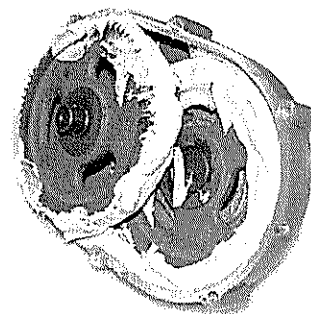

FIGURE 17
10. Fill transmission cover and case with 8 ounces (224 g) of high temperature transmission grease containing an extreme pressure additive. If Fisk Brothers GR-132 lubricant is not available, marine-grade, wheel bearing grease classified for extreme pressure (EP) applications can be used in its place. Refer to FIGURE 17
11. Reinstall primary gear and pinion assembly. Distribute grease equally around all gear teeth. Install new transmission gasket. FIGURE 17